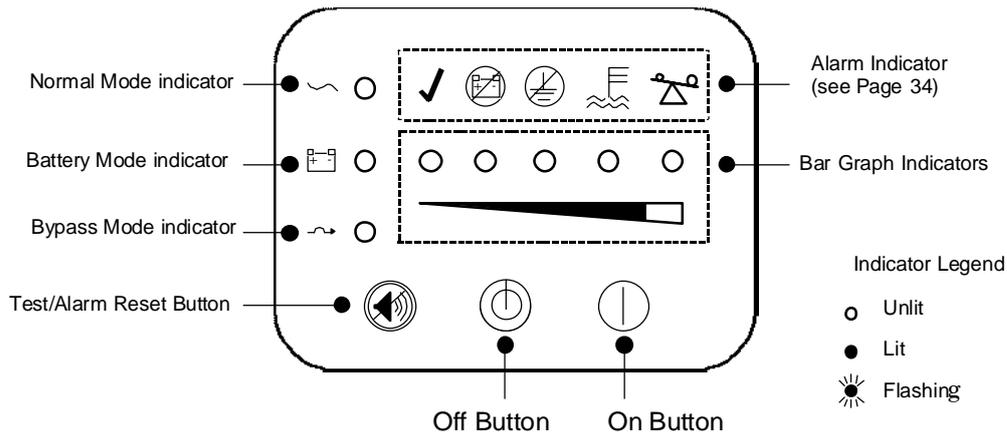

Figure 12 UPS Front Panel
11. Start the UPS by pressing the On | button (see Figure 12 on page 12). The  indicator stops flashing and the bar graph indicators display the percentage of load being applied to the UPS.
Densei-Lambda 9126's front panel indicates the UPS status through the UPS indicators. Figure 12 shows the UPS front panel indicators and controls.
After the UPS is connected to a power outlet, it conducts a self-test and enters Standby mode. To turn on the UPS, press the On  button on the front panel (shown in Figure 12 on page 12). The  indicator illuminates and the bar graph indicators display the percentage of load being applied to the UPS.